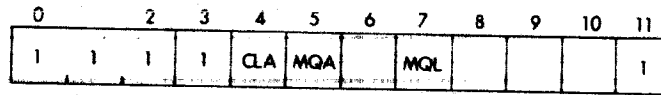

Figure 5-5 Group 3 Operate Microinstructions
Group 3 Microinstructions—Group 3 microinstructions are used to transfer data between the AC and multiplier quotient (MQ) registers. Figure 5-5 shows the format of a group 3 microinstruction. The operation code must be 7 to indicate an operate instruction, while bits 3 and 11 must